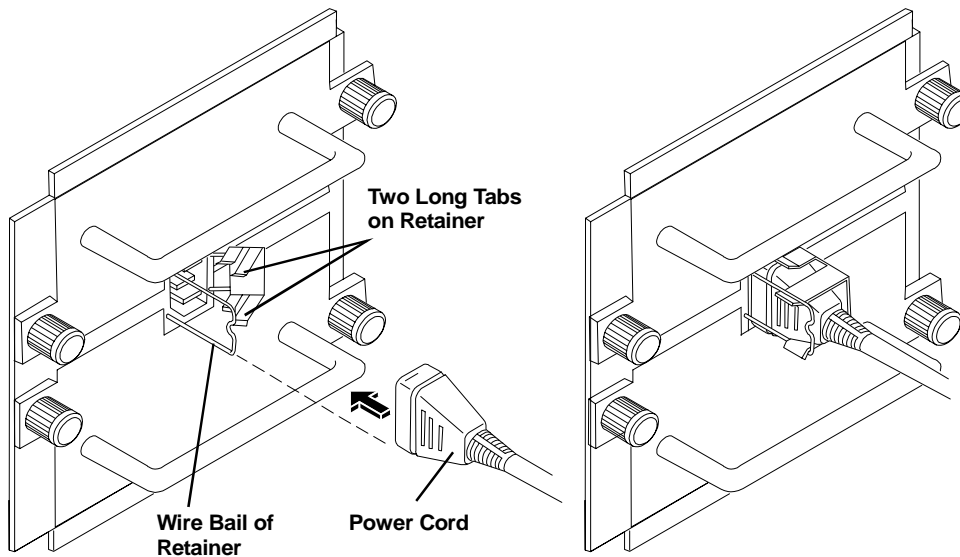

Figure 3-13. Attach Power Cord Retainer
3. Attach the power cord retainer for each AC power cord, as shown in Figure 3-13. Squeeze the two long metal tabs toward each other, and slide the wire bail over the tabs.